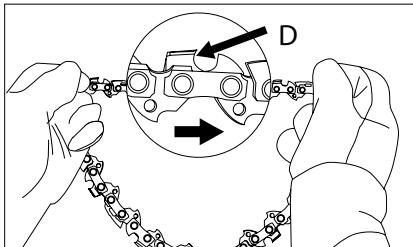

Fig. 7
5. Spread the chain in a circle with the cutting edges (D) aligned with the markings on the chain saw guard and guide bar (fig. 7).